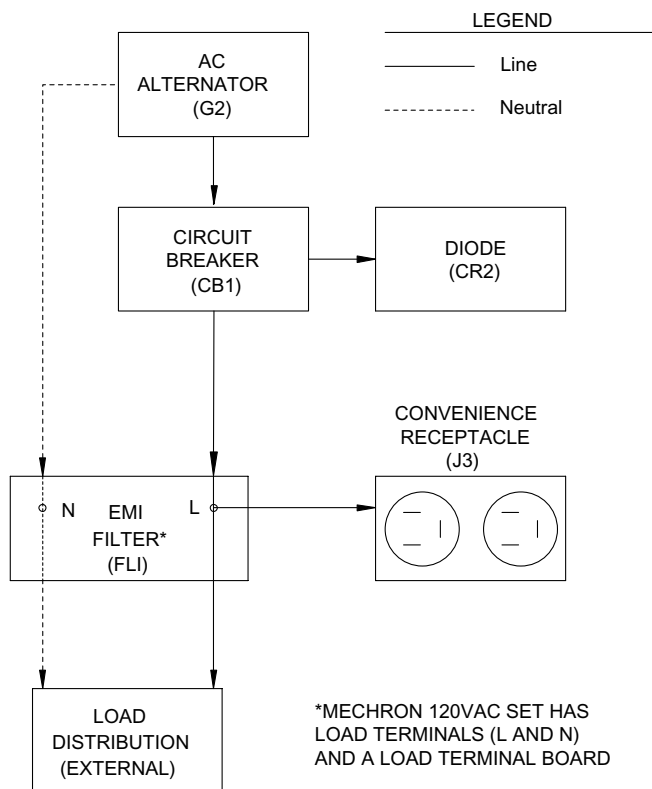

Figure 1-8. Generator Output Supply System (MEP-531A)
1.21.4. Output Supply. (Figure 1-8)